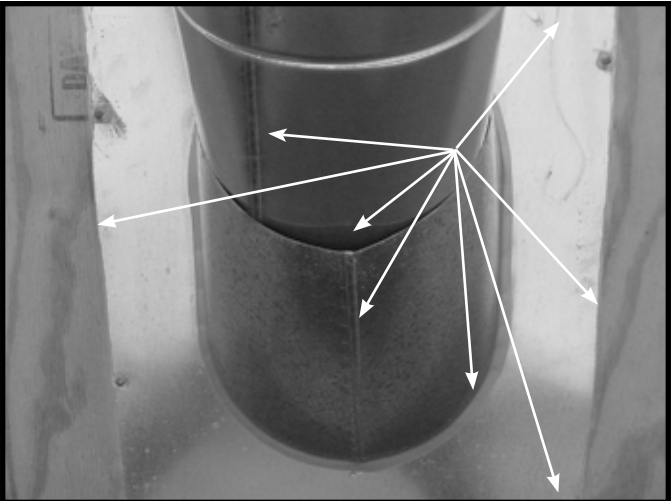

Figure 7.10
- Slide the roof flashing over the pipe sections extending through the roof as shown in Figure 7.10.
- Seal the perimeter of the flashing where it contacts the roof surface. See Figure 7.10.